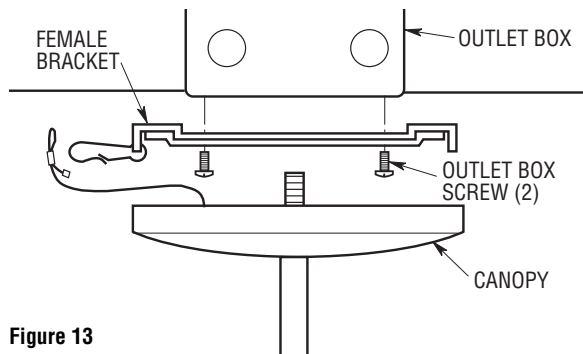

Figure 13
5. Install the female bracket to the ceiling outlet box using the two screws supplied with outlet box (Figure 13).